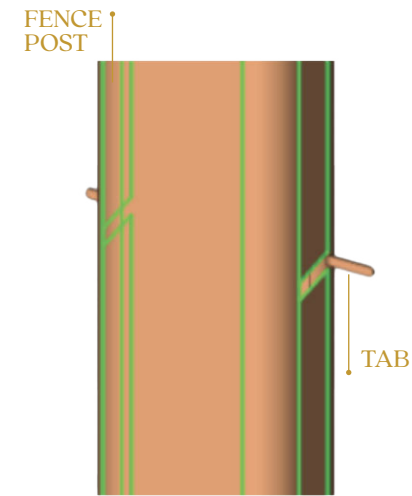

Figure 1
- 1. To prep the fence post for installation, bend out the post anchor tab with a screwdriver, set of pliers, or channel lock tool to at least 45° and not more than 90°. (Figure 1)